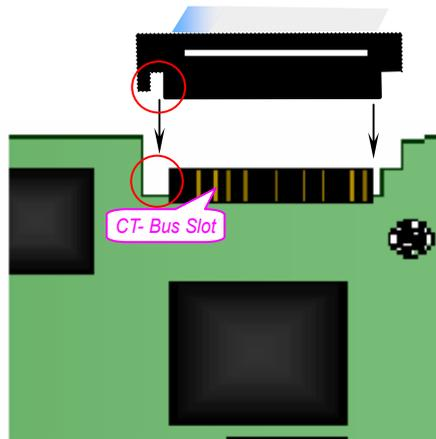

Figure 2-10 Connection of H.100 Bus
- ① See Figure 2-10 for correct insertion. Do not twist or insert in the opposite direction.